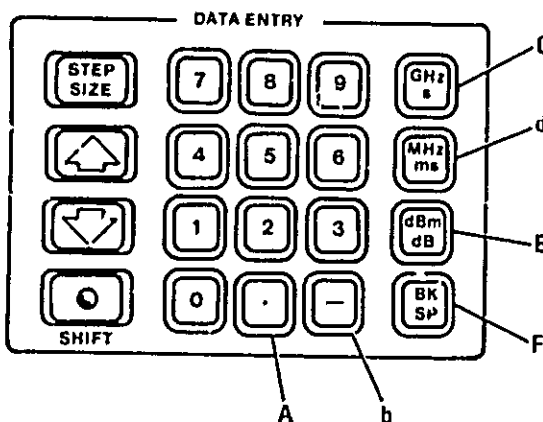

Figure 5-7. Front Panel Hexadecimal Entry Keys
7. Make **DATA ENTRY** of 2C80. (Refer to HEX entry key diagram in Figure 5-7 for location of "C".)